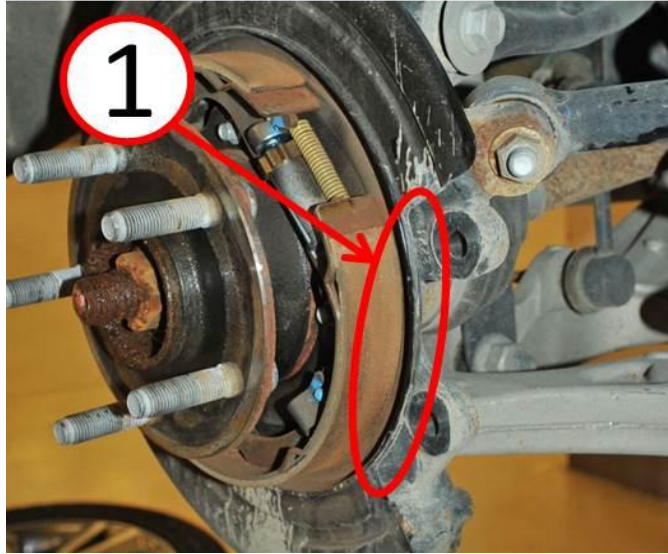

Fig. 4 Dust Shield Affected Area
7. Remove the brake rotor and use a brush to apply 3M™ Single Step Primer to the paint affected areas of dust shield where the brake caliper adapter mounting bolts made contact and/or where the dust shield contacted the brake rotor (Fig. 4).